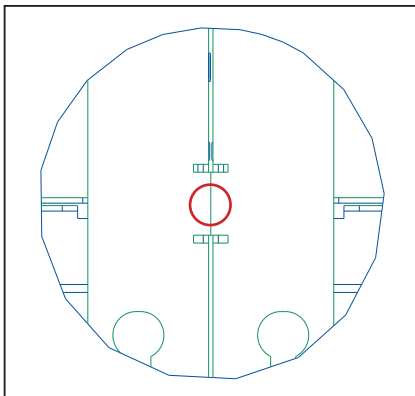

Figure 9: Ensure Alignment Tabs Are Flush & Even
- 3. Ensure the alignment tabs are flush and even with each other. Refer to **Figure 9**. Tighten the stitch bolts to lock the tabs into place.